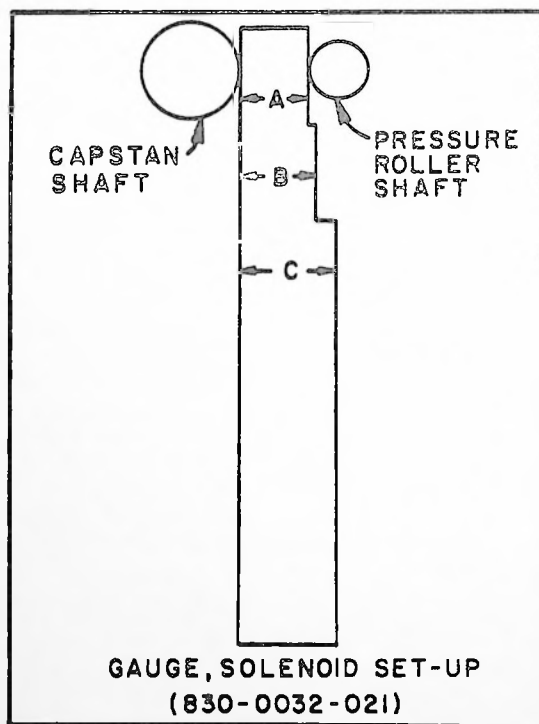

Figure 3-1
3. The 2nd step - (Dimension B) section (see Figure 3-1) should not slip through. If it does, loosen the clevis screw lock nut and rotate the plunger clockwise until the 2nd step -